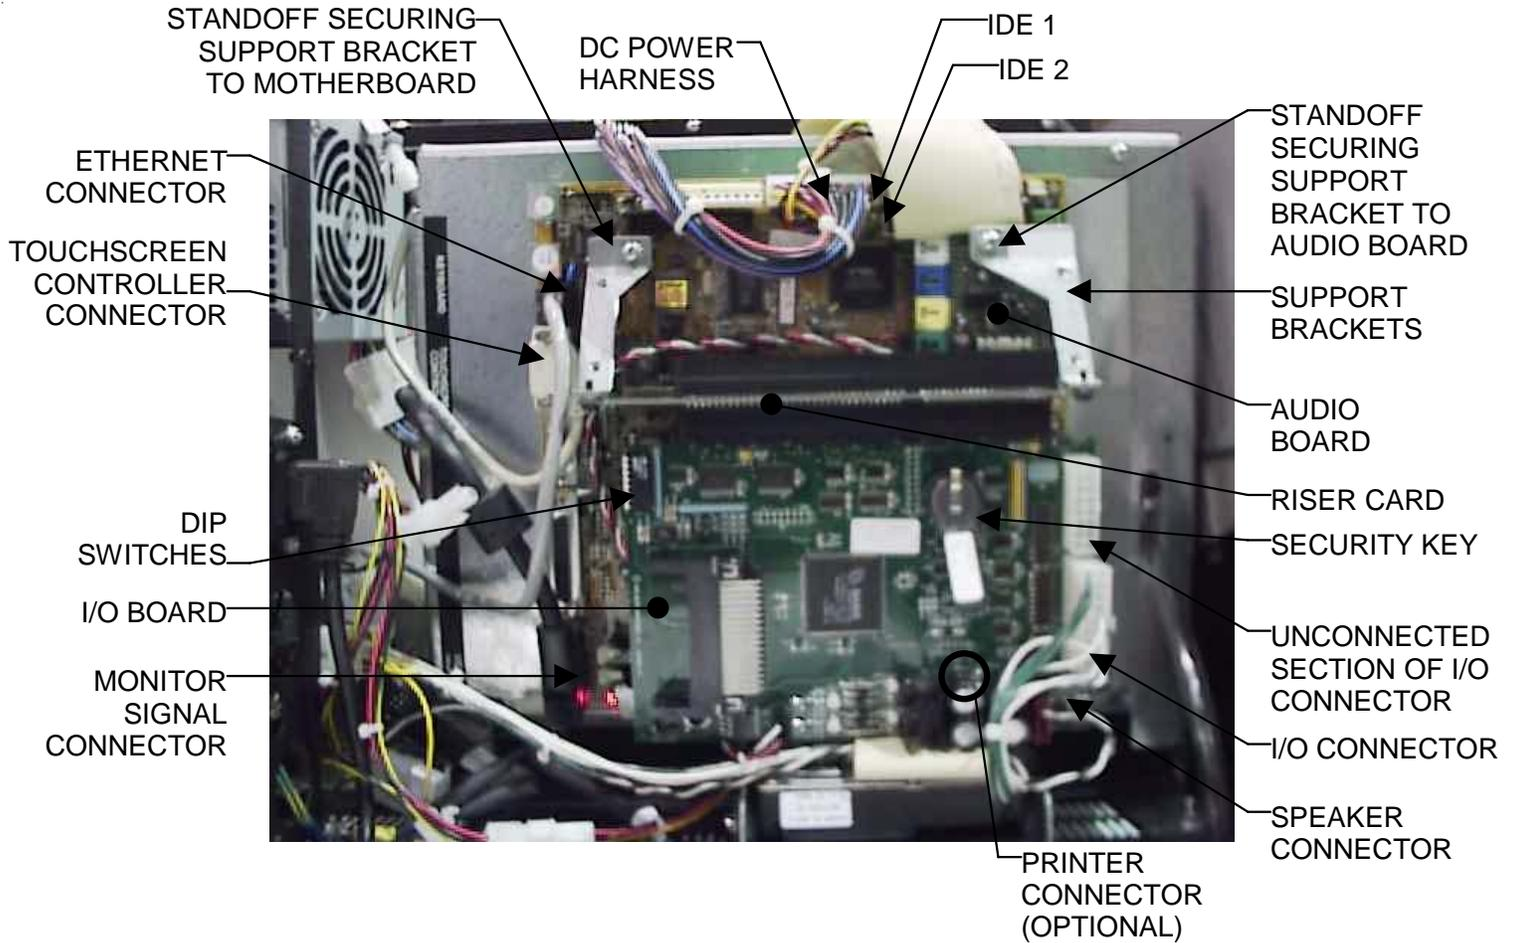

FIGURE 3 - UNICORN MOTHERBOARD
5. Loosen the 4 screws (2 on each side) fastening the 2 hard drive mounting brackets to the electronics box until you're able to slide the brackets away from the box. See Figure 3.
6. Remove the 4 screws and shoulder washers securing the hard drive to the mounting brackets and remove the drive. Also remove the 2 screws (1 per side) fastening the cable clamp to the drive. See Figure 3.
7. Unplug the 4-pin power connector and the ribbon cable from the hard drive. See Figure 3.